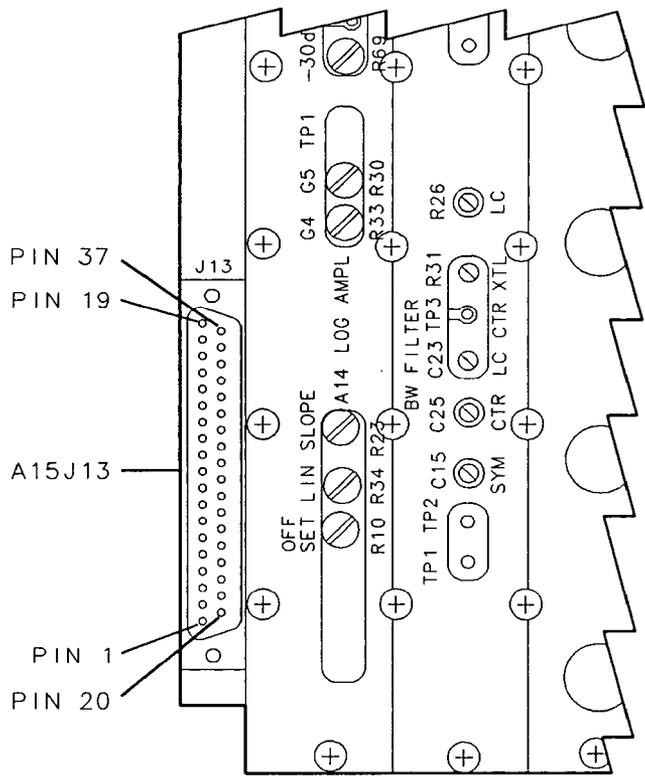

Figure 8-3. A15J13 Connector-Pin Designation
- Figure 8-3, A15J13 Connector-Pin Designation. Provides the pin numbering sequence for the connector that connects the A8 Power Supply to the motherboard.